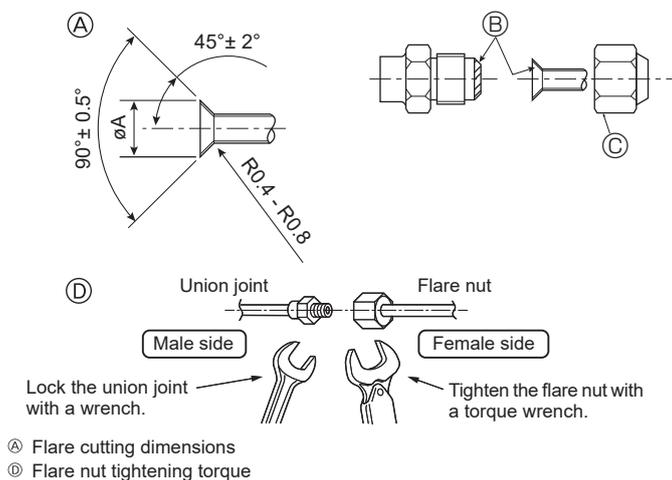

Fig. 4-6
A (Fig. 4-6)
D (Fig. 4-6)
4.4. Connecting pipes (Fig. 4-6)